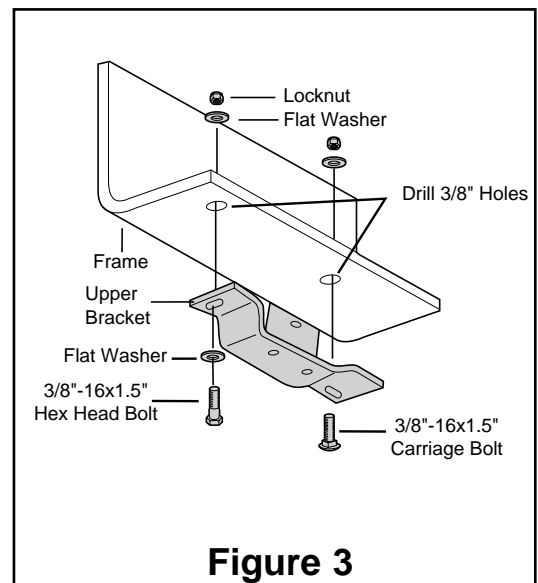

Figure 3
8. Raise the axle or lower the frame until the axle is in the normal ride height (no load) position. Install the upper bracket. You may be able to use the one or both of the existing holes from the jounce bumper bracket. **If not, use the holes on each end of the upper bracket as a template to mark and drill two 3/8" diameter holes in the bottom of the frame rail (Figure 3).** The holes in the upper bracket are slotted for adjustment. Install the 3/8-16x1.5" HEX HEAD bolt, flat washers and locknut in the REAR hole. Install the 3/8-16x1.5"CARRIAGE bolt in the FRONT hole, flat washer and locknut. **LEAVE LOOSE AT THIS TIME.**